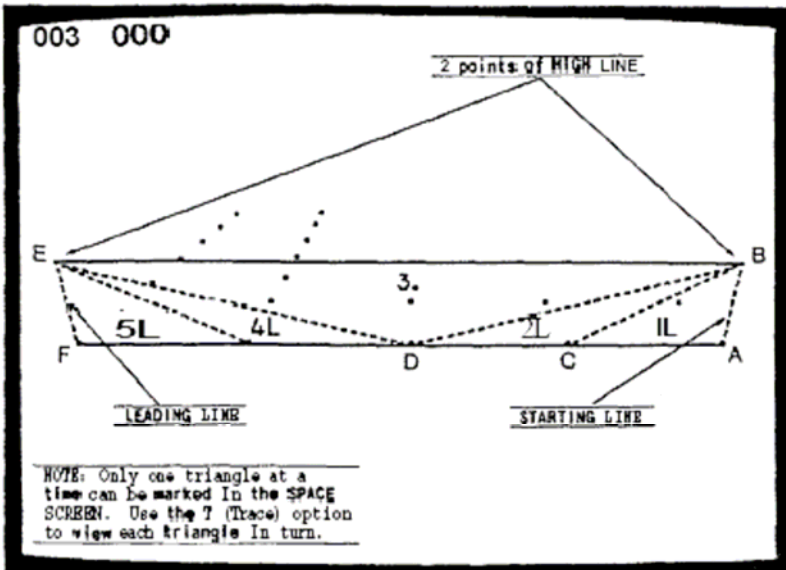
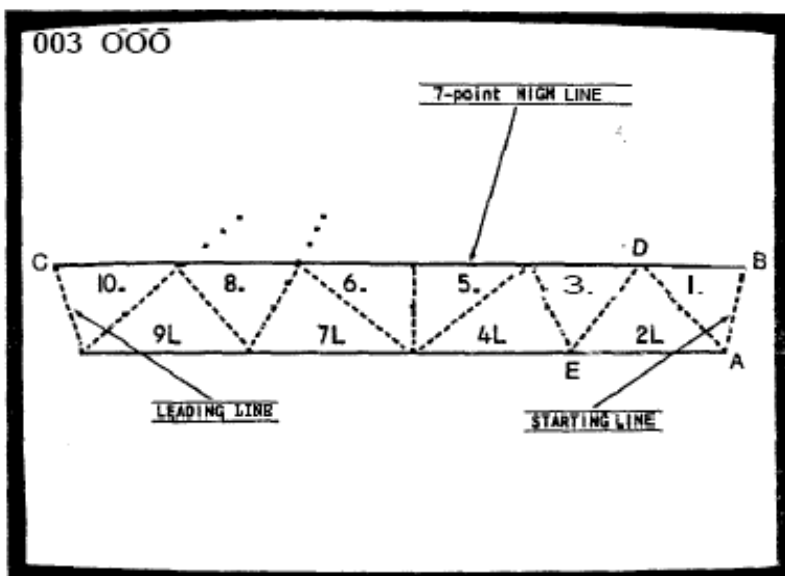

fig. 15 (SPACE SCREEN)
fig. 16 (SPACE SCREEN)
Study figs. 15,16 and 17 for a minute. These figures illustrate different ways of constructing the bottom side-wall (I.e., the labeled triangles In the illustrations) of the lateral panel of the "L" model.
There are, in fact, many ways of constructing any 3-D PANEL. It's not necessary to alternate "L" (LOW LINE) and "." (Plot) triangles. Some panels may have more "L" (LOW LINE) triangles than V (Plot) triangles (fig. 15) and other panels will have more "." (Plot) triangles than "L" (LOW LINE) triangles (figs. 16 and 17).
Go to the MAIN MENU and select CONSTRUCT 3-D PANEL. Load "18" in Z OF THIS LINE; then go to the graph. Construct the bottom panel (only the labeled triangles in fig. 15) of the lateral panel by plotting only two points on the HIGH LINE (see fig. 15). (NOTE: Pt. A of fig. 15 is located at X = 120, Y = -40 and pt. F is located at X = 0, Y = -40.) Construct the wall so that it's vertical.
Go to the MAIN MENU and select CONSTRUCT 3-D PANEL. Load "18" In Z OF THIS LINE; then go to the graph. Construct a vertical bottom wall of the "L" by plotting 7 points on the HIGH LINE (see figs. 16 and 17). (HINT: Place the cursor over the first point of the LOW LINE (X = 120, Y = -40) and form a panel STARTING LINE. Use the DRAW MENU to set up a 7- point line (add 6 points) to pt. C (X = 0, Y = -40) of fig. 16. Return to the graph and use the "A" (Advance) key to advance the cursor while constructing the wall.)
Refer to fig. 15 while observing the following steps:
2. Type the "L" (LOW LINE) key once to construct the first triangle of the panel (triangle 1L of fig. 15).
3. Type the "L" (LOW LINE) key once again to construct the second triangle of the panel (triangle 2L of fig. 15).
Refer to fig. 16 while observing the following steps:
5. Construct the remainder of the bottom wall by using the **"." (Plot)** and **"L" (LOW LINE)** keys. Use the **"A" (Advance/Draw)** key to Jump the cursor to each new **HIGH LINE** point on the straight line prior to each use of the **"." (Plot)** key. Follow fig. 16 closely as you are constructing the wall. Notice that, In this case, the illustration calls for two **"." (Plot)** triangles to be constructed In succession near the center of the wall. When finished, trace the triangles back In the **SPACE SCREEN**.
One exception to the above statement would occur if you wanted to place a design on the wall. In fig. 15, for example, if triangles 1L, 2L, 4L and 5L were all assigned the same **PAINT NUMBER** value and triangle 3. was assigned a different **PAINT NUMBER** value, the bottom wall of the 'L', when displayed by the **SURFACE SHADER XE**, would be displayed with a V-shaped pattern on it. When putting designs on a surface, it's necessary to carefully select the location